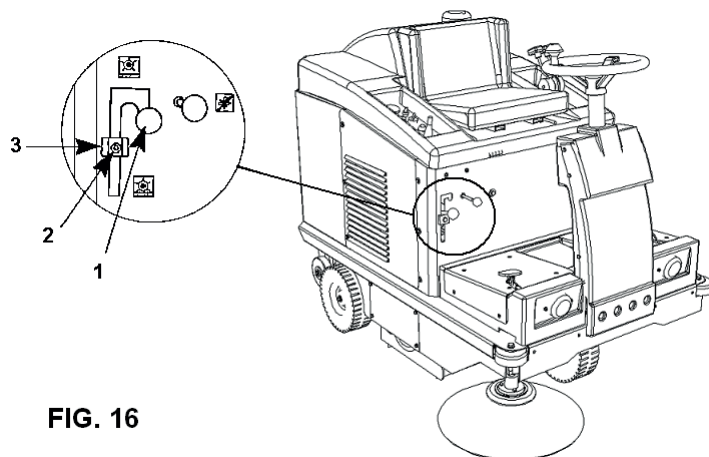

FIG. 16
- Position lever **Part. 1 Fig. 16** so that the central brush is raised.
- Loosen screw **Part. 2 Fig. 16**.
- Lower the adjuster **Part. 3 Fig. 16** by 3/4 mm or by the desired distance.
- Secure the adjuster by tightening screw **Part. 2 Fig. 16**
- Position lever **Part. 1 fig. 16** above the adjuster **Part. 3 fig. 16**.
- The central brush can be adjusted until the adjuster **Part. 3 fig. 16** reaches the end of stroke; after this, the brush must be replaced.